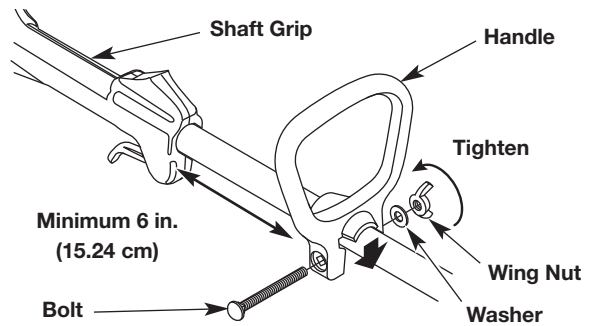

Fig. 2
1. Push the handle down onto the shaft housing (Fig. 2). The square bolt hole in the handle should be to the right.
2. Insert the bolt into the square bolt hole and push it through (Fig. 2). Place the washer onto the bolt. Screw the wing nut onto the bolt, but do not tighten the wing nut completely.
3. While holding the unit in the operating position (Fig. 9), move the handle to the location that provides the best grip. Place it a minimum of 6 inches (15.24 cm) from the end of the shaft grip (Fig. 2).
1. Loosen the wing nut (Fig. 2).
2. While holding the unit in the operating position (Fig. 9), move the handle to the location that provides the best grip. Place it a minimum of 6 inches (15.24 cm) from the end of the shaft grip (Fig. 2).